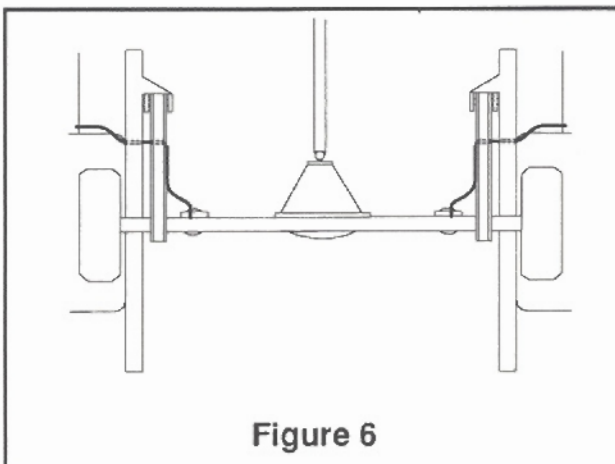

Figure 6
A. Select a location for the inflation valves in the rocker panel flange or rear floor pan insuring that each valve will be protected and accessible with an air hose (Figure 6).